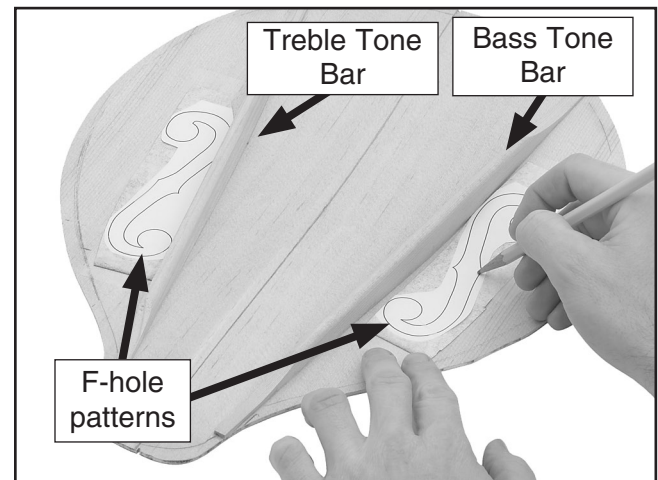

Figure 6. Using carbon paper to trace f-holes onto inside of top.
6. Draw two f-holes onto the inside of the top as shown in **Figure 6**.